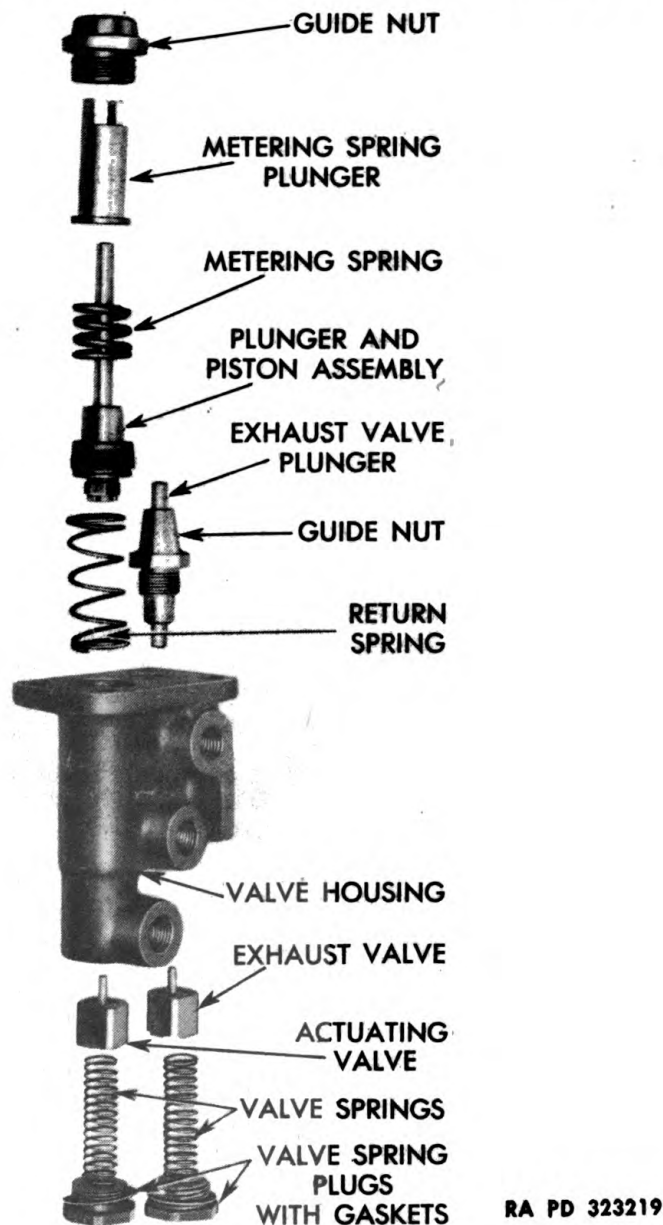

Figure 225 — Air and Electric Brake Control Valve Housing Disassembled
(6) **REMOVE EXHAUST VALVE PLUNGER AND GUIDE NUT** (fig. 225). Clamp valve housing in vise, and remove guide nut and plunger.
(7) **REMOVE PLUNGER AND PISTON ASSEMBLY** (fig. 225). Remove metering spring plunger guide nut and metering spring plunger. Pull out plunger and piston assembly with metering spring, and lift out return spring.
(8) **DISASSEMBLE PLUNGER AND PISTON ASSEMBLY** (fig. 225). Clamp metering spring guide portion of piston in a vise, and remove piston sealing cup spreader nut and lock washer. Pull cup spreader and piston sealing cup from plunger.
(9) **REMOVE EXHAUST AND ACTUATING VALVES** (fig. 225). Clamp valve housing in vise, and remove actuating and exhaust valve spring plugs and gaskets. Lift out valve springs and valves. **NOTE:** *Actuating and exhaust valves, springs, and plugs are identical.*
(2) **INSTALL ACTUATING AND EXHAUST VALVES** (fig. 225). Clamp valve housing in a vise. Insert actuating and exhaust valves and springs. Install valve spring plugs and new gaskets.
(3) **ASSEMBLE PLUNGER WITH PISTON ASSEMBLY** (fig. 225). Clamp metering spring guide portion of piston in a vise, and install sealing cup on plunger with lip facing away from piston. Install cup spreader, lock washer, and spreader nut. Tighten securely.
(4) **INSTALL PLUNGER WITH PISTON ASSEMBLY** (fig. 225). Insert return spring, plunger with piston, and metering spring in valve housing. Install metering spring plunger and guide nut.